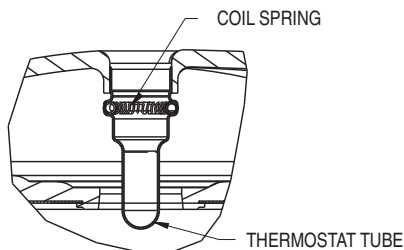

Figure 5. Coil spring location
b. Verify the coil spring is seated in the thermostat tube groove area (see Figure 5) on the top of the compressor. (The spring is required for proper DTC valve installation)